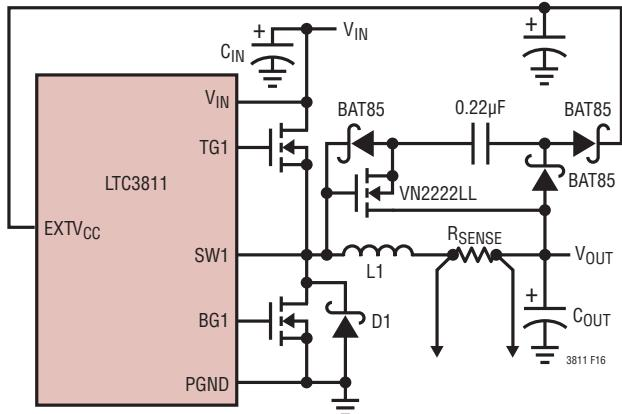

Figure 16. Capacitive Charge Pump for EXTV_{CC}
3. $EXTV_{CC}$ connected to an output-derived boost network. For 3.3V and other low voltage regulators, efficiency gains can still be realized by connecting $EXTV_{CC}$ to an output-derived voltage which has been boosted to greater than 4.5V but less than 7V. This can be done with a capacitive charge pump shown in Figure 16.
The optional Schottky diode, D1, shown in Figure 16 conducts during the dead-time between the conduction of the two power MOSFETs. This prevents the body diode of the bottom MOSFET from turning on, storing charge during the dead-time and requiring a reverse recovery period that could cost as much as 1% in efficiency at high V_{IN} . A 1A to 3A Schottky is generally a good compromise for both regions of operation due to the relatively small average current. Larger diodes result in additional transition losses due to their larger junction capacitance.